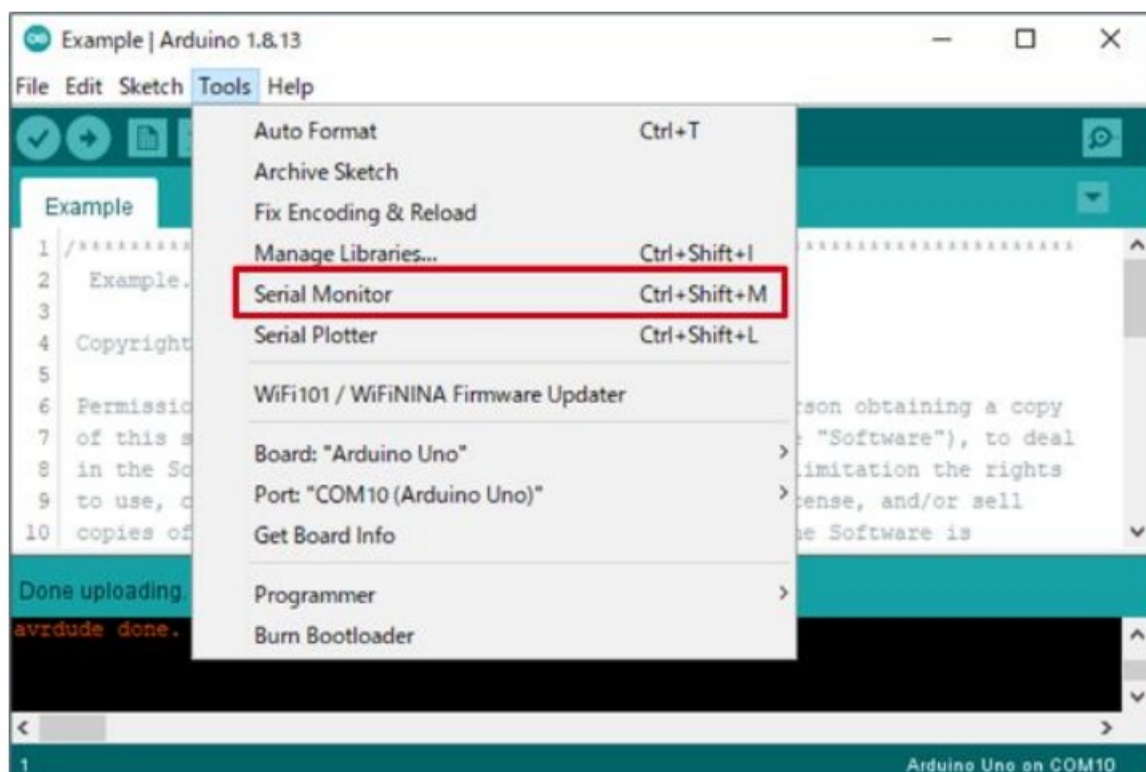

Figure 6. Selecting Serial Monitor
3. Select [Tools] -> [Serial Monitor]. (Figure 6)